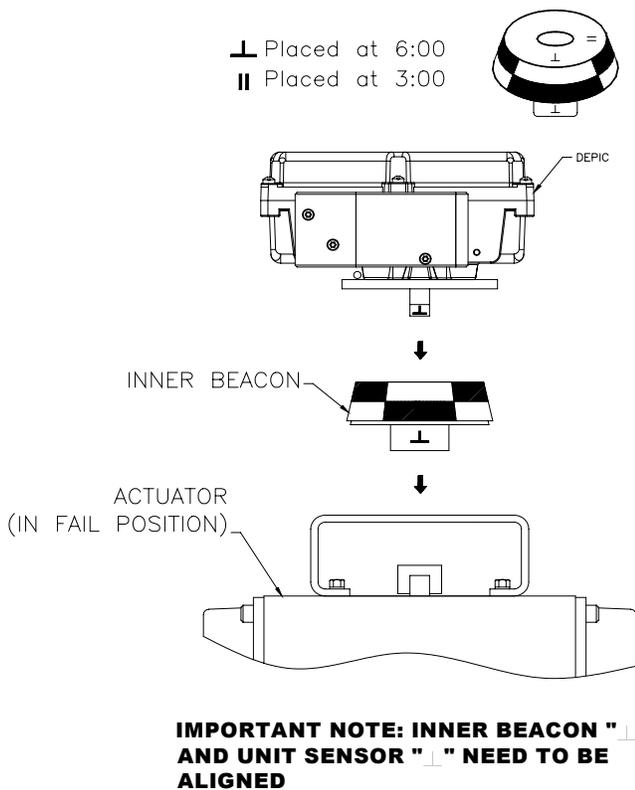

Figure 1
Press fit the inner beacon to the inner beacon coupler. The inner beacon needs to be properly oriented. Use the symbols on the top of the inner beacon to orient correctly during installation as shown in Condition 1 or Condition 2 (See Figures 1 and 2 below).
- 3.2.1.4 Lastly, mount the D-EPIC to the bracket so that the conduit entry faces away from the diaphragm or cylinder (See Figure 1).